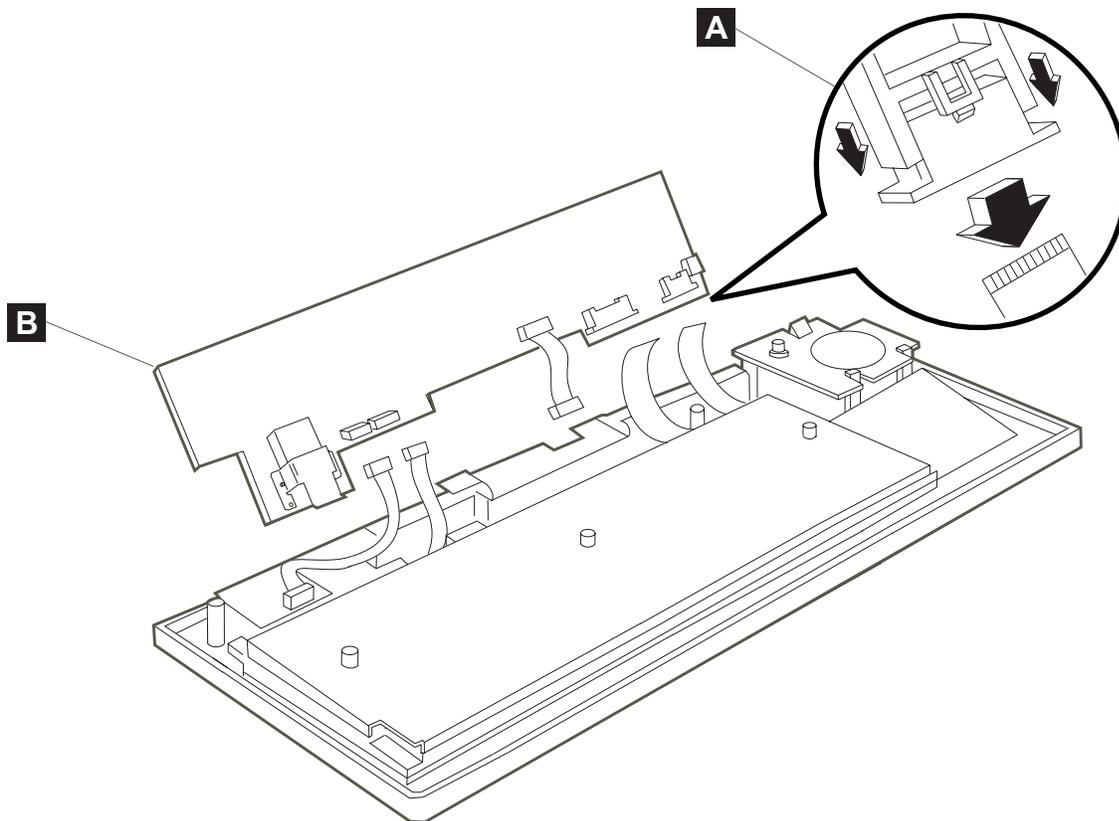

Figure 58. USB keyboard-V components – part 3
5. Lift the logic board, and turn it over (see Figure 58 on page 59).